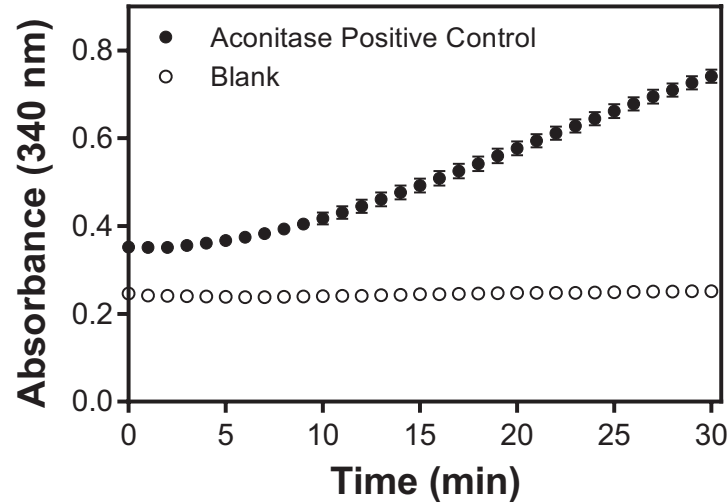

Figure 3. Activity of bovine heart mitochondrial aconitase
- Plot the absorbance values as a function of time to obtain the slope (rate) of the liner portion of the curve (an example of the Aconitase Positive Control is shown in Figure 3 on page 16)